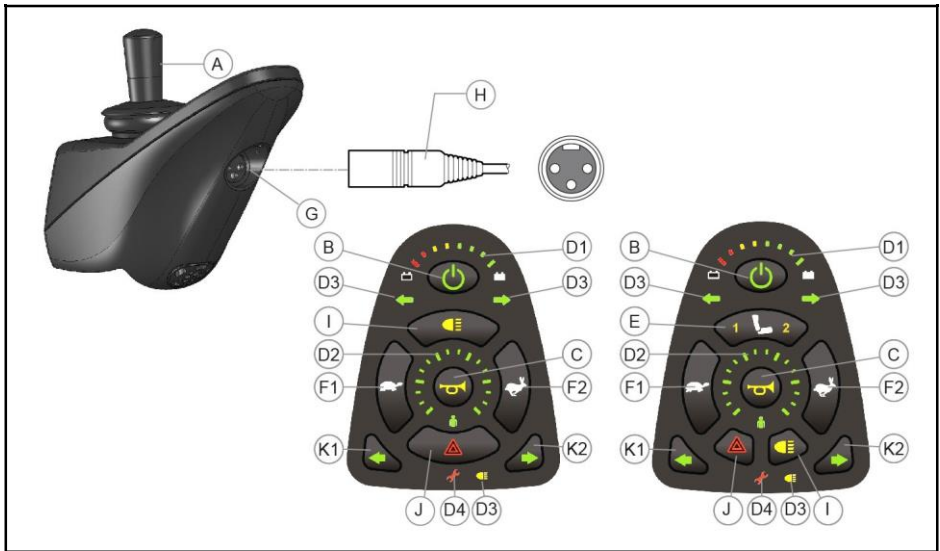

Figure 1.2 Left REM421; Right REM420
To be able to drive or operate the powered adjustment options of the wheelchair, the controller must be switched on. Press the on/off button (B in figure 1.2).
The maximum speed can be controlled by the 'speed regulator' on the controller (F in figure 1.2). Speed can be controlled with the joystick while driving. If the joystick is moved a little, the wheelchair will move more slowly.
2. Press on the ‘adjustment’ button to select the ‘adjustment options’ mode (E in figure 1.2).
- After 4 seconds the 'maximum speed' (D2 in fig 1.2) and the Lock LED turn on for 1 second to indicate that the DX2 system is now locked.